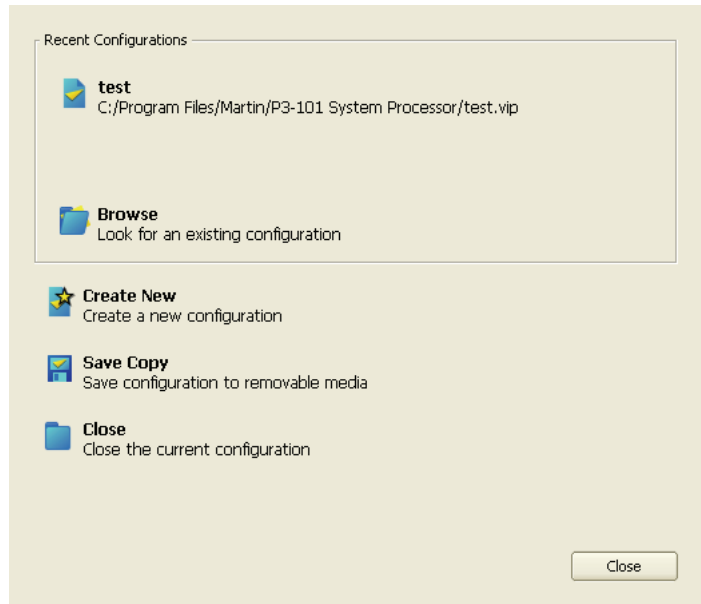

Figure 5: File Operations window
1. See Figure 5. Open the **File** menu and either:
- Select the most recently used configuration file from the list at the top of the **Recent Configurations** window (this file is called **test** in Figure 5).